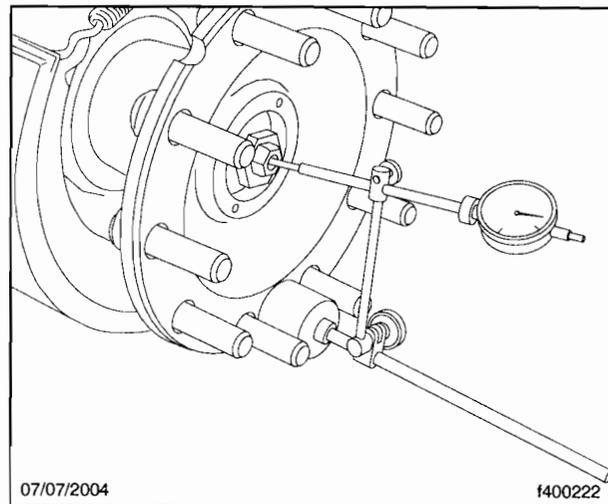

Fig. 4, Using the Dial Indicator
27.5 With the jam nut installed and tightened, *attach a dial indicator to the hub* and set the point of the indicator in line with the end of the axle spindle. See **Fig. 4**.